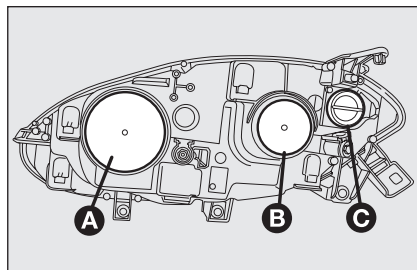
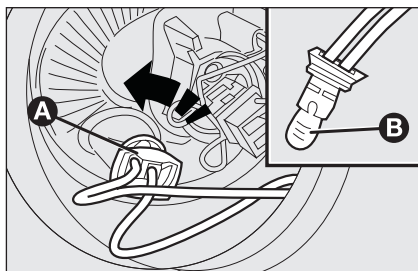

fig. 19
fig. 21
### FRONT LIGHT UNITS fig. 19
- ☐ remove the protective cover **B**-fig. 19;
- ☐ refit the protective cover **A**-fig. 19 correctly.
- ☐ remove the protective cover **A-fig. 19**;
- ☐ turn the bulb holder **A-fig. 21** counterclockwise and then withdraw it;
- ☐ fit the new bulb, refit the bulb holder **A-fig. 21** and then refit the protective cover **B-fig. 19** correctly.
- ☐ refit the protective cover **B-fig. 19** correctly.
- ☐ turn the protective cover **C-fig. 19** counterclockwise;